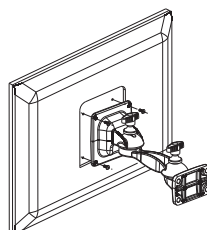

Fig. 3
3. Screw the flat screen to the hanging bracket with M4 screws provided (Refer Fig. 3).